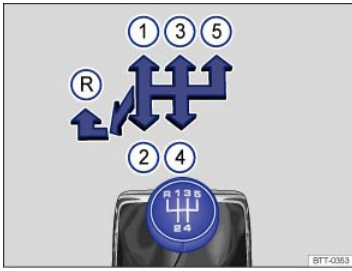
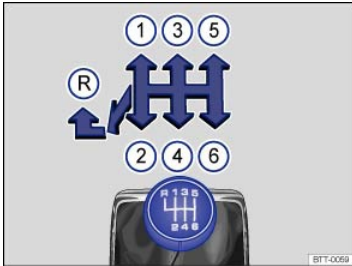

Fig. 139 Gearshift pattern of a 5-speed manual transmission.
Fig. 140 Gearshift pattern of a 6-speed manual transmission.
The positions of the individual gears are shown on the gearshift lever ⇒ Fig. 139 or ⇒ Fig. 140.
- Move the shift lever to the left and then push forward into the reverse gear position ⇒ Fig. 139^R or ⇒ Fig. 140^R.